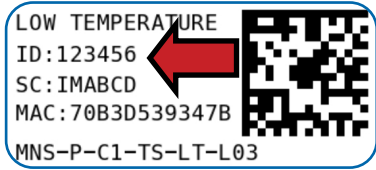

Figure 1
2. **Find the device ID. See Figure 1.**